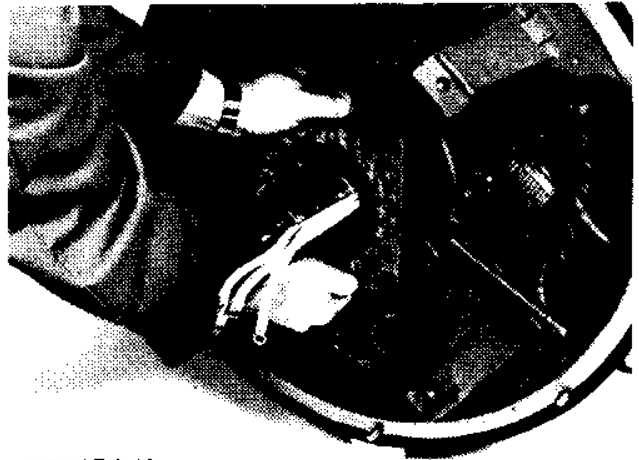

FIGURE 6-16
5. Carefully remove the PMG stator from its mounting pads and slide over the PMG rotor. The magnets used in the PMG are very strong. They will resist removal of the PMG stator. (Figure 6-16.)